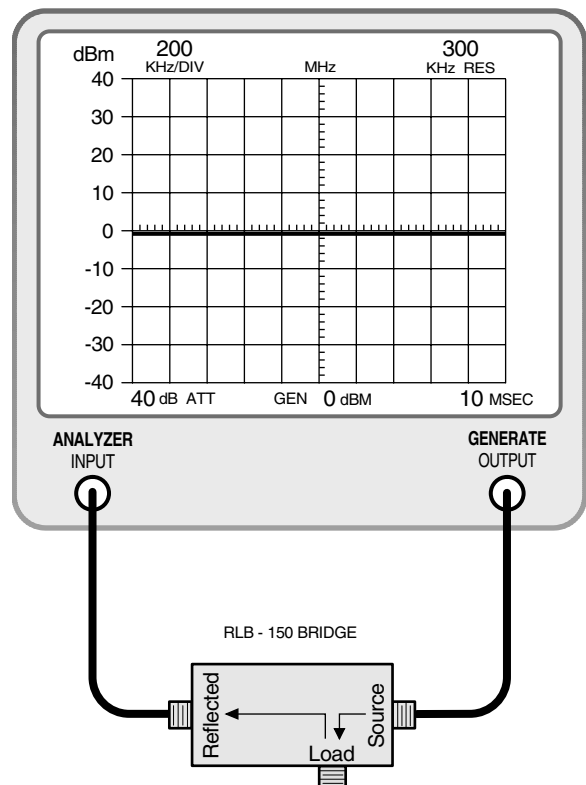

Figure 3: Setting the return loss reference.
1. A zero reference for return loss must be established at the IFR A-7550 prior to checking the passband frequency, this is done by connecting the return loss bridge to the analyzer / generator as shown in **Figure 3**.
3. A zero reference for return loss must be established at the IFR-7550. Connect the RLB to the analyzer / generator as shown in figure 3.